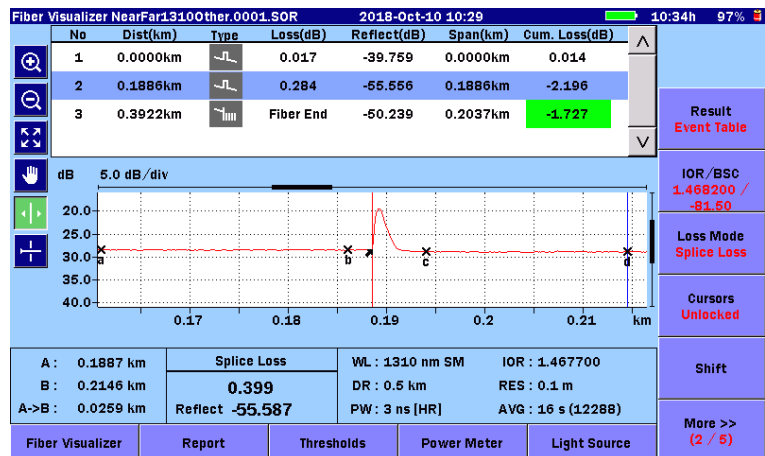

Figure 5.6.1-3 Fiber Visualizer Trace Screen
11. To check the trace, touch **Trace** in the lower left of the screen shown in Figure 5.6.1-2.